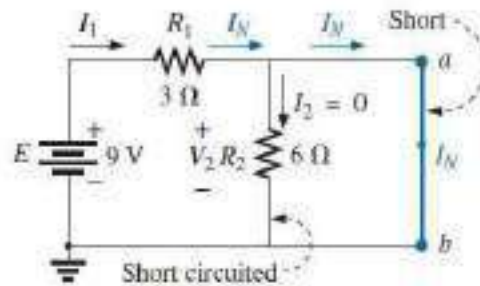

FIG. 9.70
Step 4: See Fig. 9.70, which clearly indicates that the short-circuit connection between terminals *a* and *b* is in parallel with R_2 and eliminates its effect. I_N is therefore the same as through R_1 , and the full battery voltage appears across R_1 since